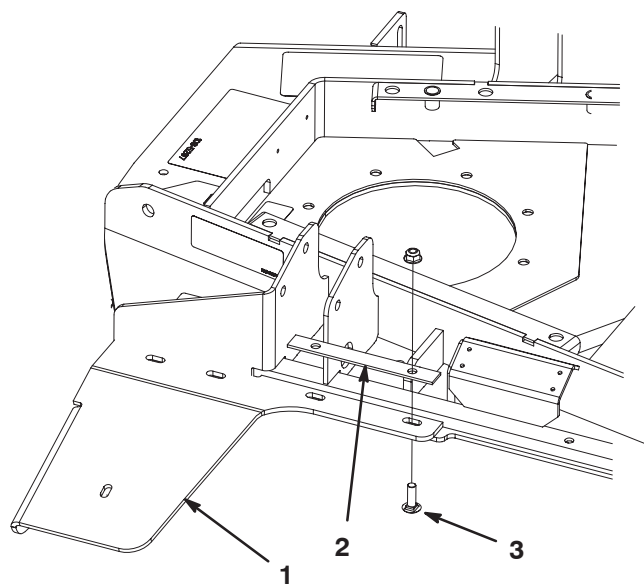

Figure 1
1. Mount the rubber deflector to the left rear corner of the cutting unit with a hold down, (2) 5/16 x 1 in. lg. carriage bolts and flange nuts. Position the deflector as shown in figure 1.